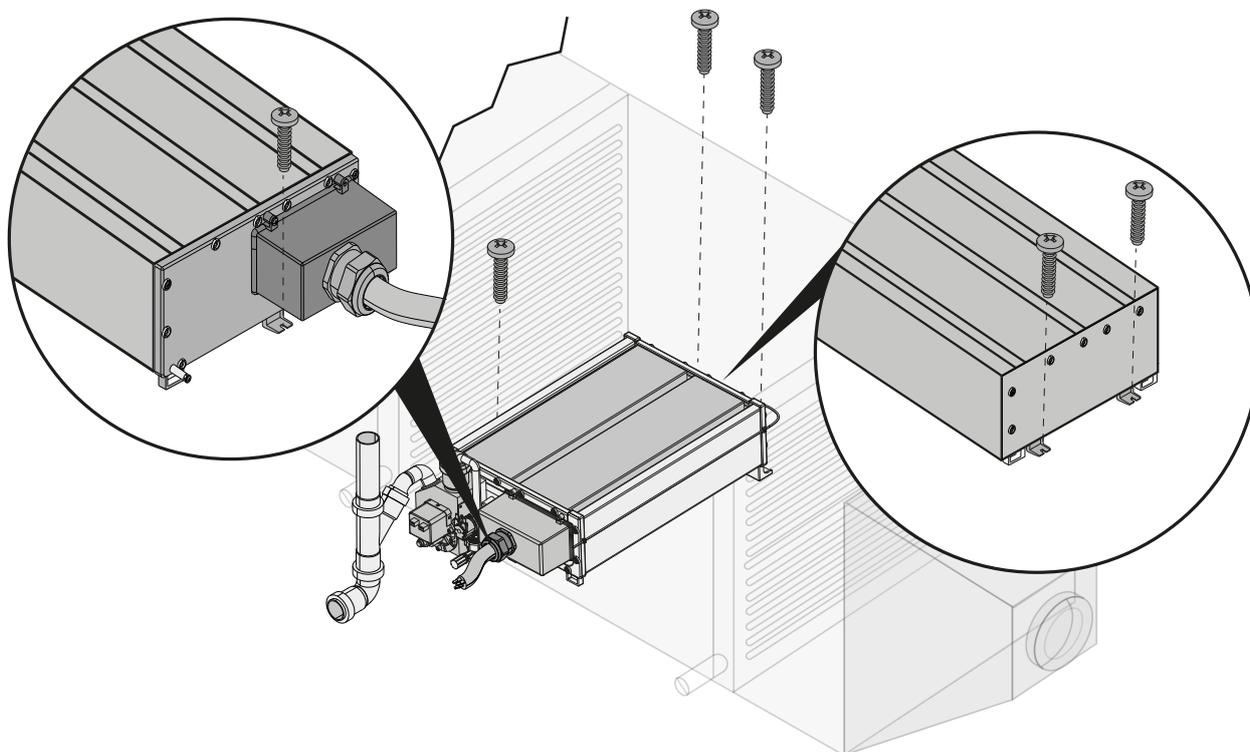

Fig. 7. Hydraulic unit installation
- Secure the hydraulic unit with 3 screws inserted into the anchoring hooks (see “**FIG. 7. HYDRAULIC UNIT INSTALLATION**” ON PAGE 17) (not mandatory);